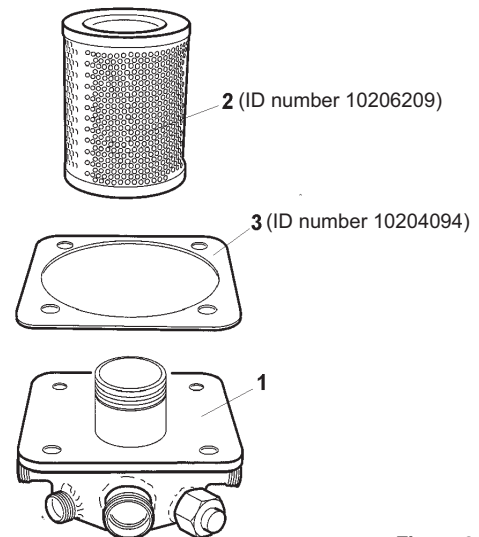

Figure 3
- Screw on a new filter element (Item 2, Figure 3) and tighten by hand.
- Re-assemble the collector with a new seal (Item 3, Figure 3) and tighten the bolts to 25 ft/lbs (34 Nm)